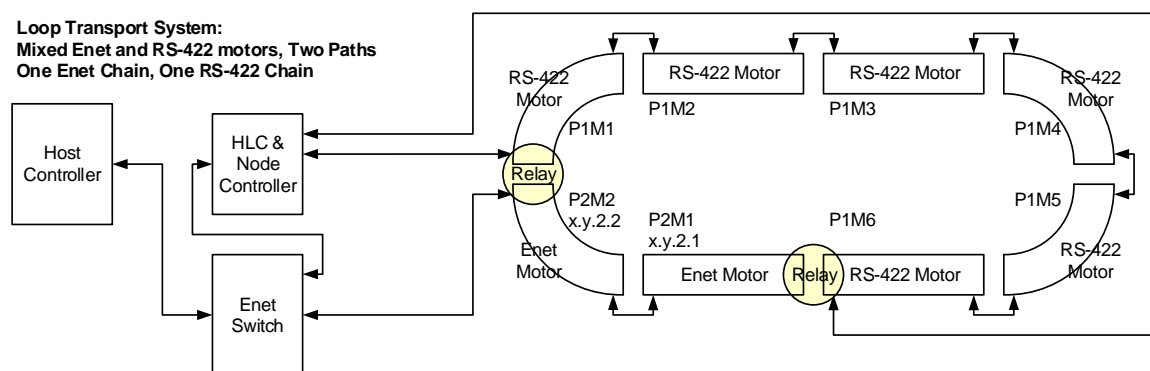

Figure 18: Basic RS-422 Loop With Ethernet Motors Added
1. Install the Ethernet motors in the transport system as shown in Figure 18 (see the *MagneMover LITE User Manual*).
- B. Make sure that the loop has two paths that are connected by Relay Nodes as shown in Figure 18.